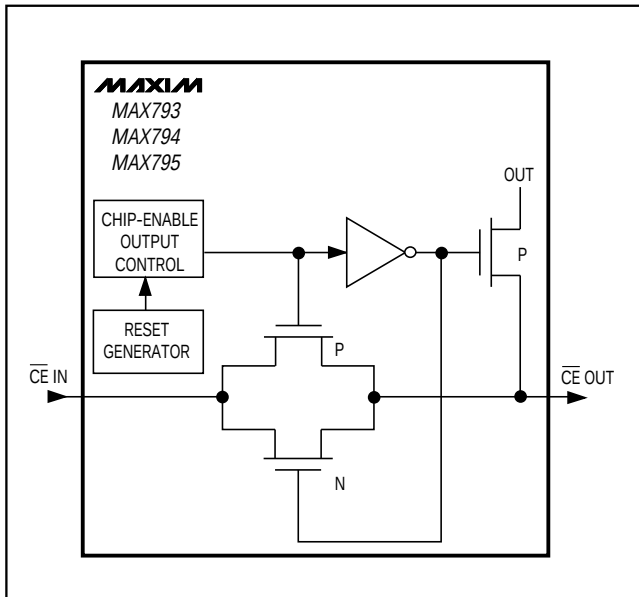

Figure 7. Chip-Enable Transmission Gate
Internal gating of chip-enable (CE) signals prevents erroneous data from corrupting CMOS RAM in the event of an undervoltage condition. The MAX793/MAX794/MAX795 use a series transmission gate from $\overline{CE}$ IN to $\overline{CE}$ OUT (Figure 7). During normal operation (reset not asserted), the CE transmission gate is enabled and passes all CE transitions. When reset is asserted, this path becomes disabled, preventing erroneous data from corrupting the CMOS RAM. The short CE propagation delay from $\overline{CE}$ IN to $\overline{CE}$ OUT enables these μ P supervisors to be used with most μ Ps. If $\overline{CE}$ IN is low when reset asserts, $\overline{CE}$ OUT remains low for typically 10 μ s to permit completion of the current write cycle.